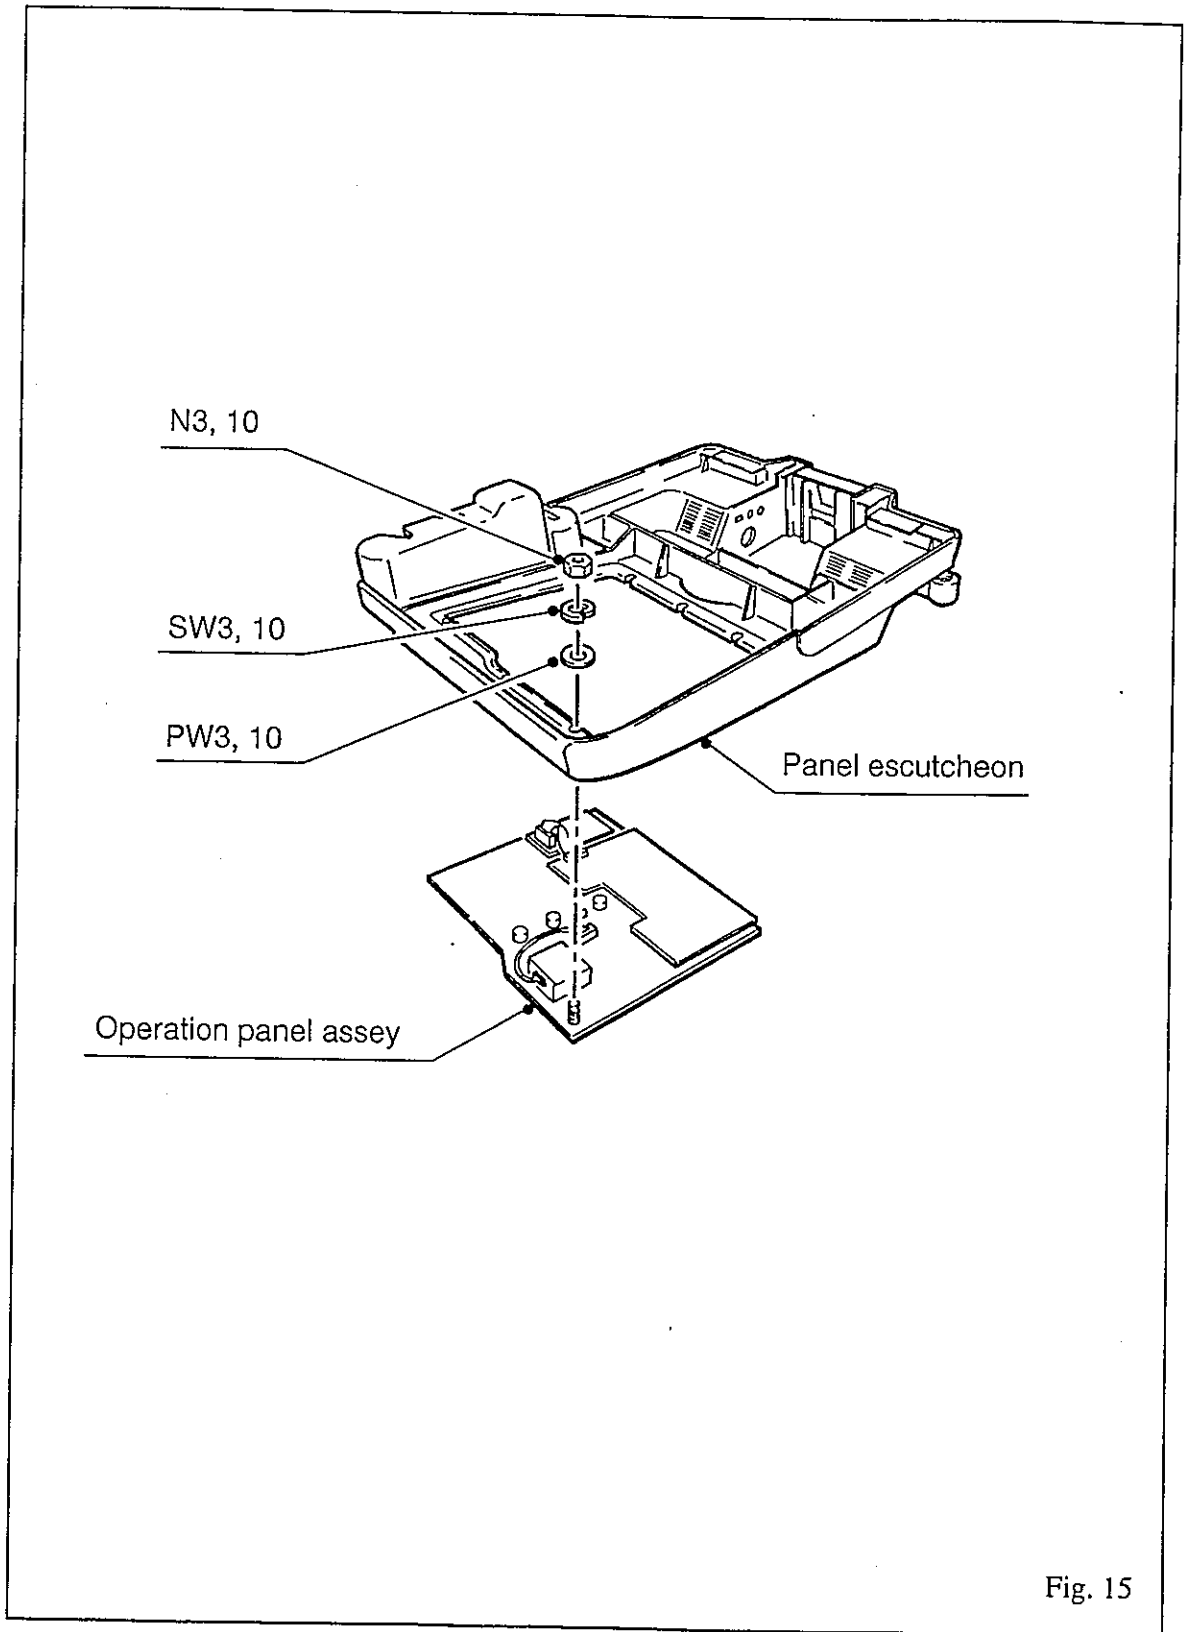

Fig. 15
- 5-2. Operation panel . . . Remove each 10 nuts, spring washers, and washers, and assembly detach the operation panel assembly. (Fig. 15)